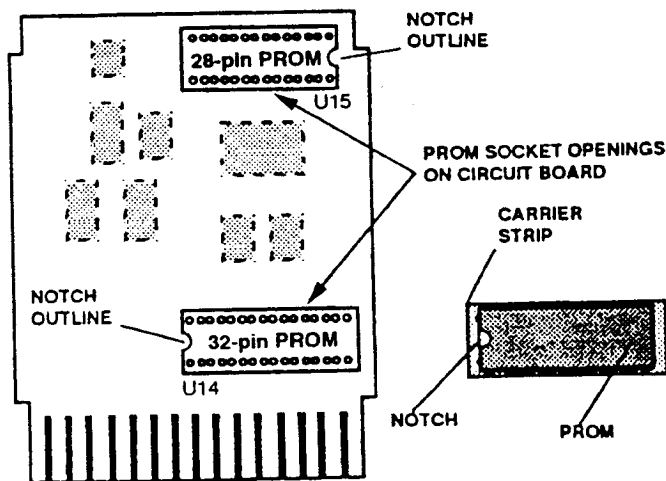

Figure 5. Typical PROM installation on cartridge circuit board. Align notch on PROM with notch on circuit board outline.
- Holding the PROM by its ends, align it with the outline around the PROM socket on the circuit board. Ensure that the notch is aligned with the notch in the PROM outline on the circuit board, figures 5 and 6.